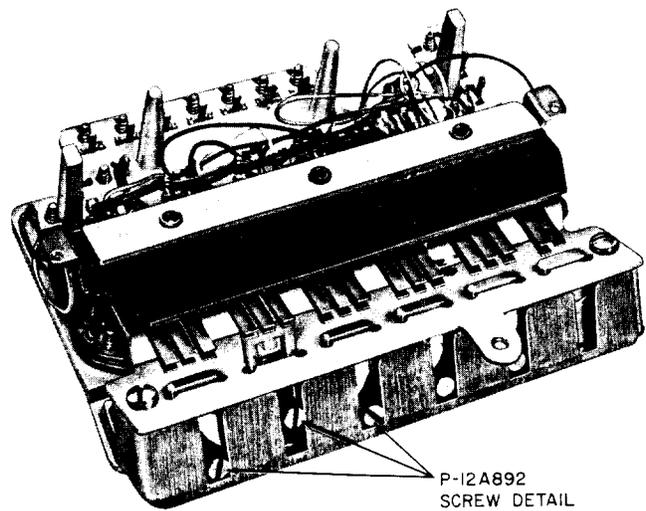

Fig. 7—636A Key, Bottom View
3.02 To convert the pickup buttons for signaling use; remove P-12A892 screw detail (Fig. 7) and make necessary wiring changes.